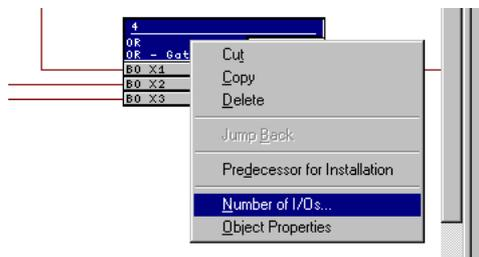

Figure 5-37 Example of an OR gate: module menu
The default run-time sequence is determined by the sequence of the insertion of the logic modules. You may redefine the run-time sequence by pressing <CTRL> – <F11> on the PC keyboard. Please refer to the CFC manual. The necessary function modules (FM) are contained in a library located to the right of the configuration chart. The module also indicates to which of the four run-time levels (MW_BEARB, PLC1_BEARB, PLC_BEARB, SFS_BEARB) it is assigned. The modules possess at least one input and one output. In addition to these inputs and outputs, which are displayed on the configuration sheet, a module may have additional inputs. The additional inputs can be made visible by selecting the module title block, pressing the *right* mouse button, selecting the menu option **Number of I/Os...** (see Figure 5-37), and then increasing the number.